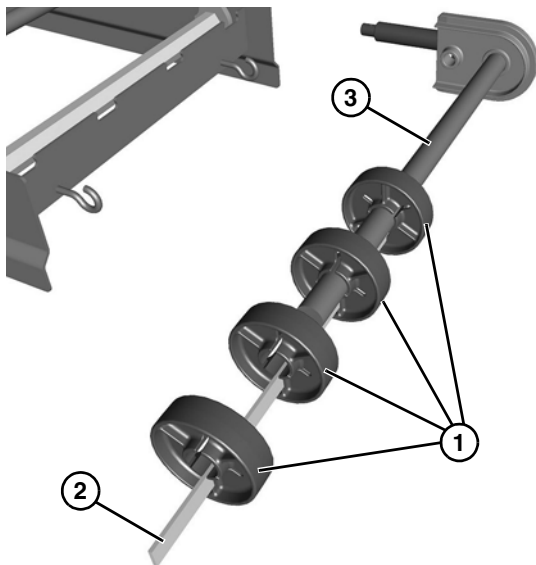

Figure 65
6. Slide the pucks (**Figure 65, item 1**) and alignment bar (**Figure 65, item 2**) off the idler shaft (**Figure 65, item 3**).